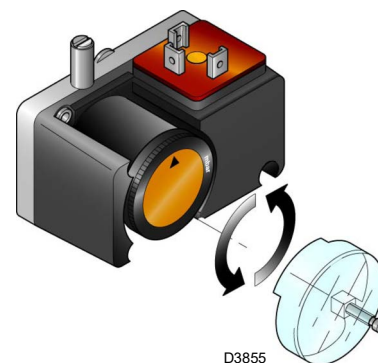

Fig. 30
- Adjust the pressure switch for the leak detection control (PVP kit)(Fig. 30 on page 33) according to the instructions supplied with the kit.
Adjust the pressure switch for the leak detection control (PVP kit) (Fig. 30) according to the instructions supplied with the kit.